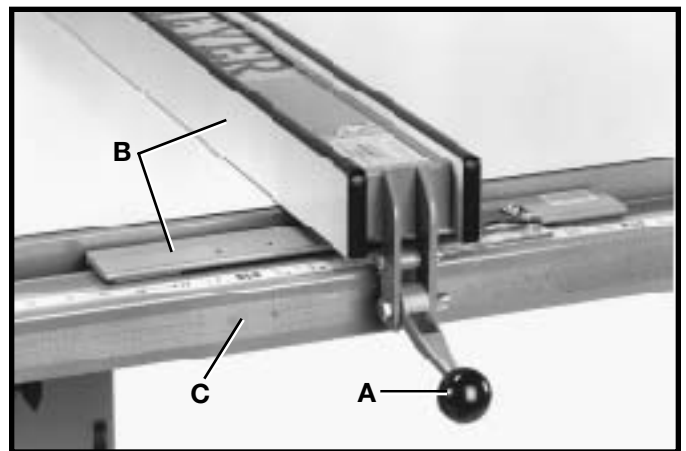
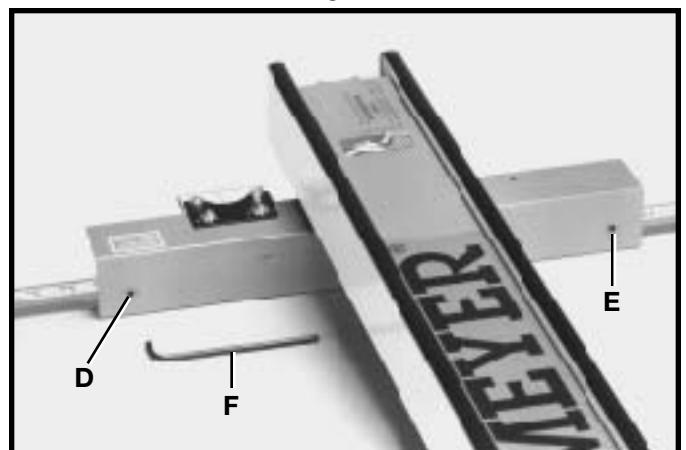

Fig. 65
Fig. 66
When the fence locking handle (A) is pushed to the down position, as shown in Fig. 65, the fence assembly (B) should be completely clamped to the guide tube (C). If the fence assembly (B) is not completely clamped to the guide tube (C) when the handle (A) is pushed down, as shown in Fig. 65, lift up handle (A) and raise fence assembly (B) up off the guide tube (C). Slightly tighten the two adjusting screws (D) and (E) Fig. 66, using the 3/16 allen wrench (F) not supplied. **Adjusting screws (D) and (E) Fig. 66, should be tightened an equal amount.** Replace fence onto the guide tube and re-check to see if the fence assembly (B) Fig. 65, is completely tightened to the guide tube (C) with the locking handle (A) pushed down. Adjust further if necessary. **IMPORTANT: AFTER ADJUSTING THE CLAMPING ACTION OF THE FENCE LOCKING HANDLE, CHECK TO SEE IF THE FENCE IS PARALLEL TO THE MITER GAGE SLOT AND ADJUST IF NECESSARY.**